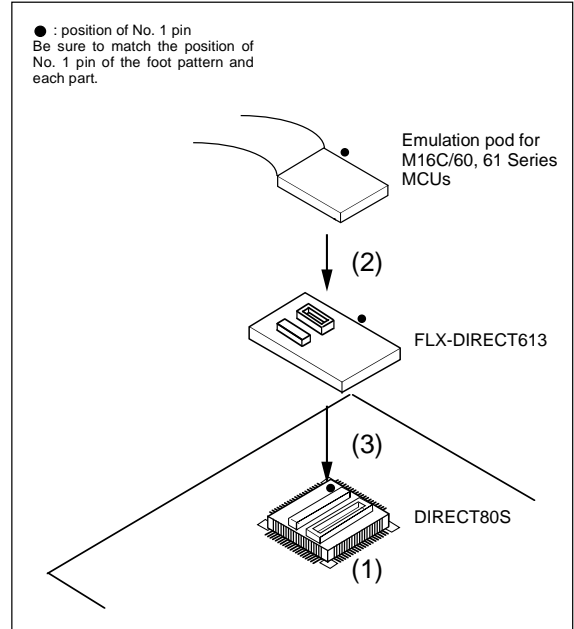

Figure 2 Usage of FLX-DIRECT613
4. Application (see Figure 2)
5. Connection Procedure (see Figure 2)